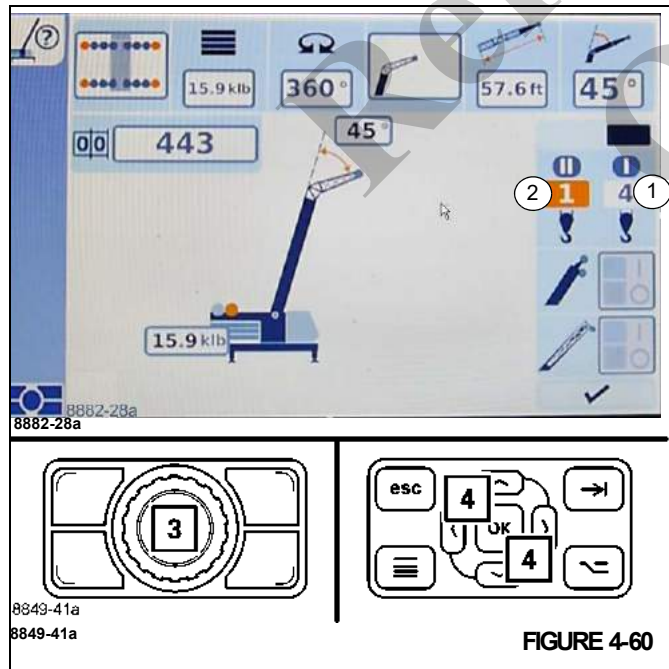

FIGURE 4-60
- Use the buttons (3), (Figure 4-60) or (4) to select the rigged reeving.